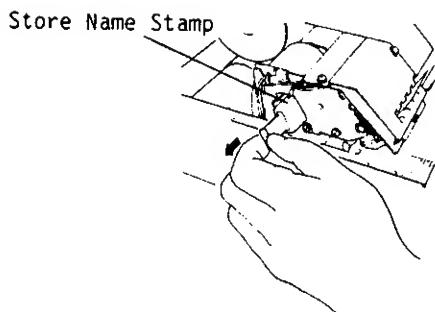

Fig. 4
2. Withdraw the store name stamp with the protruding part pinched with your fingers (Fig. 4).
### Locking (Fig. 4)